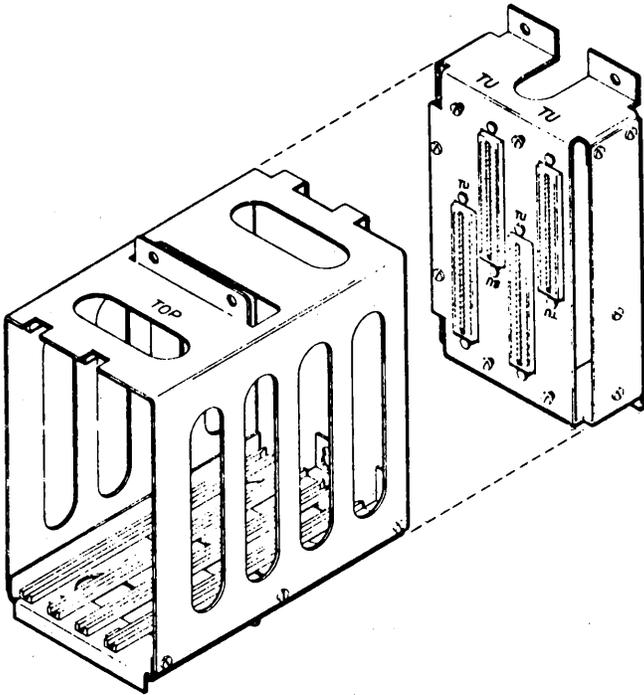
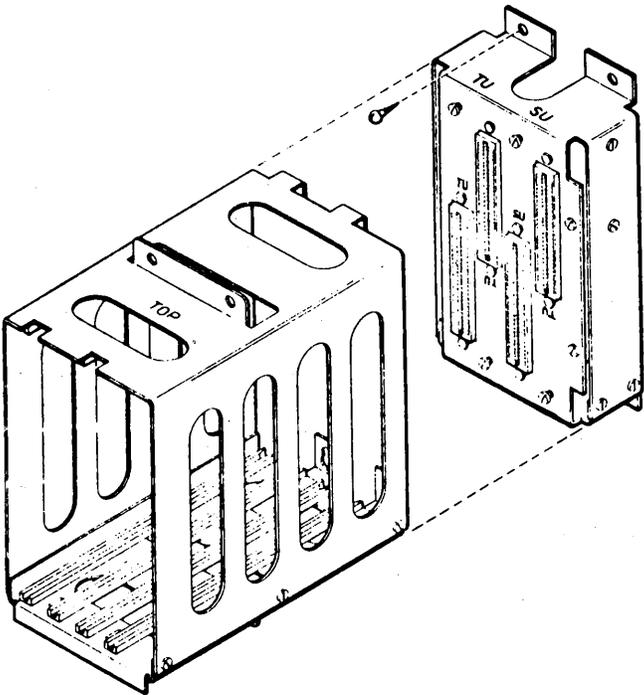

Fig. 17—J99380K CPC Orientation for Two MFT Transmission Units
Fig. 18—J99380K CPC Orientation for One MFT Transmission Unit and One Signaling Unit
6.05 When the case and base are oriented as shown in Fig. 17, the mounting will accept two MFT transmission units, etc, as listed in 6.02(a). In the other orientation, as shown in Fig. 18, the mounting will accept one transmission unit and one signaling unit.